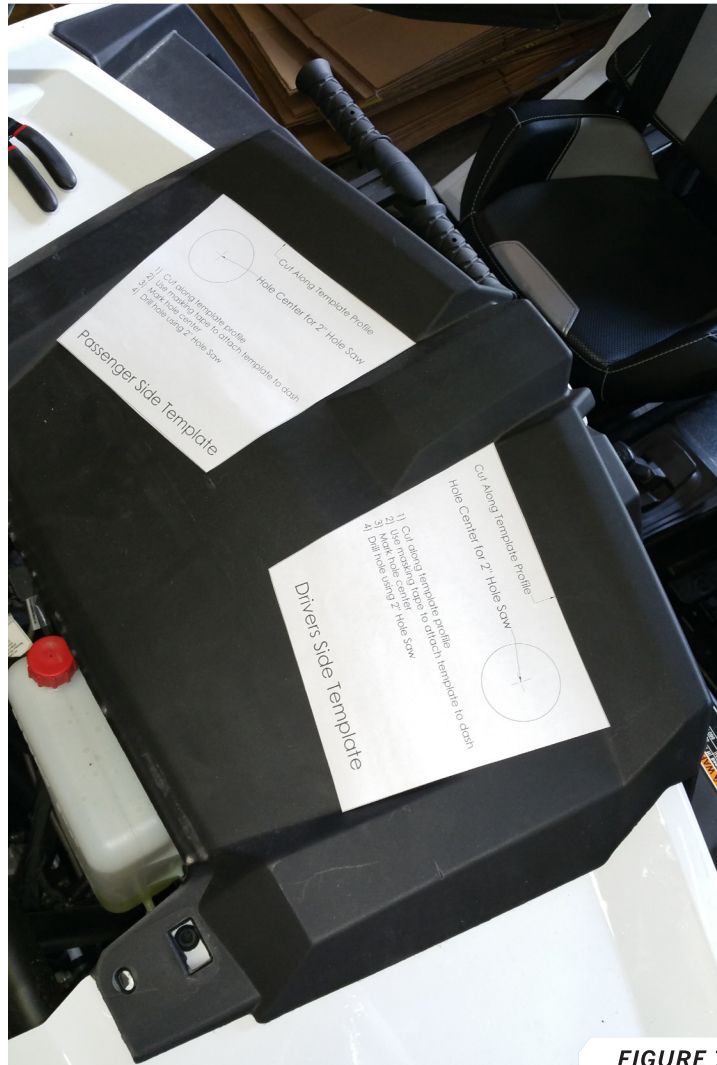

FIGURE 7
17. Cut out template #1 and template #2 and tape them to the top of the dash as shown in *FIGURE 7*.